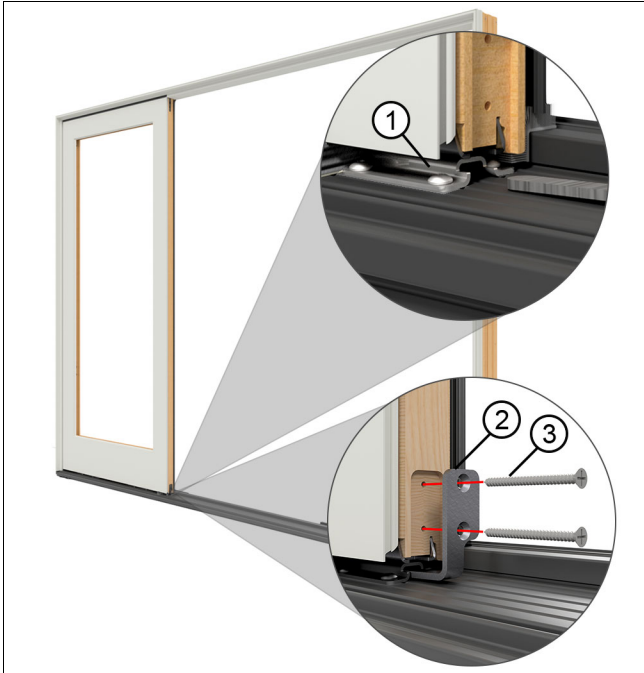

Figure 34 Performance sill shown (process for accessibility sill is the same).
8. Install the sill to panel bracket. Slide the bracket under the sill bracket (attached to the sill). Then fasten to the stationary panel with #8 x 2" screws provided. See Figure 34.